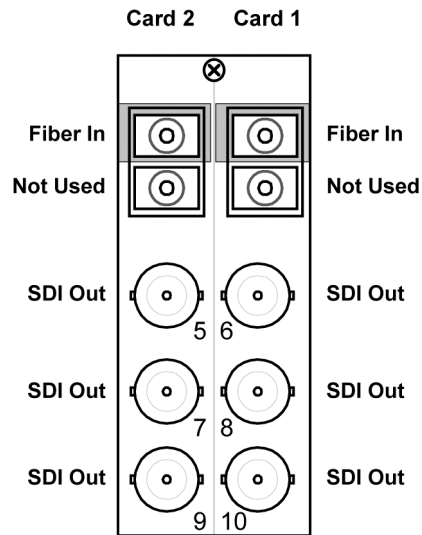

Figure 2.6 Cable Connections for the **RM20-9211-B/S** Rear Module
- **RM20-9211-B/S Split Rear Module** — Each 9211-OE occupies one slot and provides one optical input, and three SDI outputs. Refer to **Figure 2.6**.